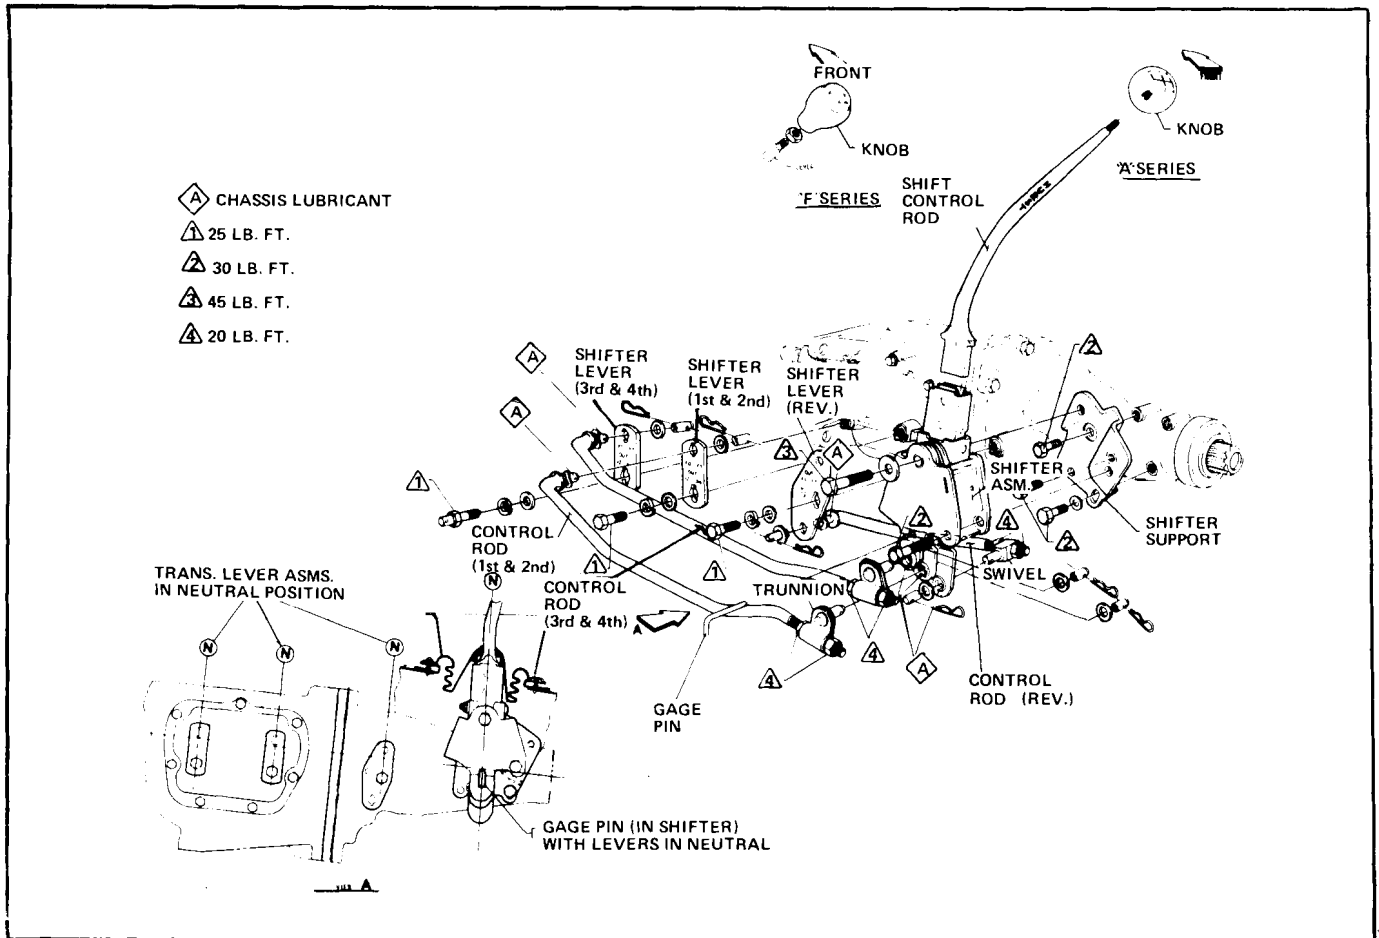

Fig. 7D-9 Floor Shift Controls (A Series Shown)
FLOOR SHIFT AND BACK DRIVE LINKAGE (Figs. 7D-9 thru 7D-11)
2. Loosen adjusting swivel clamp on gearshift control rod (Figs. 7D-10 or 7D-11).
3. Loosen trunnion jam nuts on all three transmission control rods (Fig. 7D-9).
4. Insert a .250-.249" diameter gage pin into shifter assembly (view "A" of Fig. 7D-9).